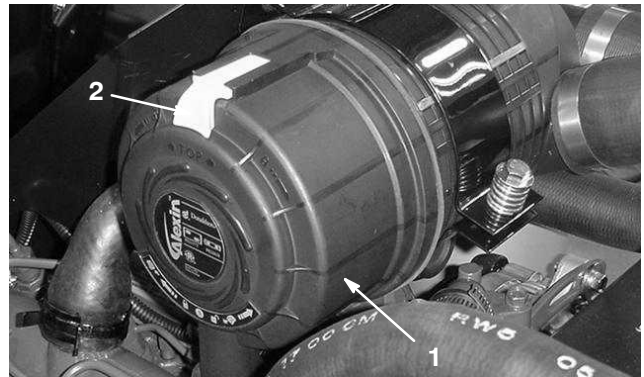

Figure 36
1. Release the latches securing the air cleaner cover to the air cleaner body (Fig. 36).